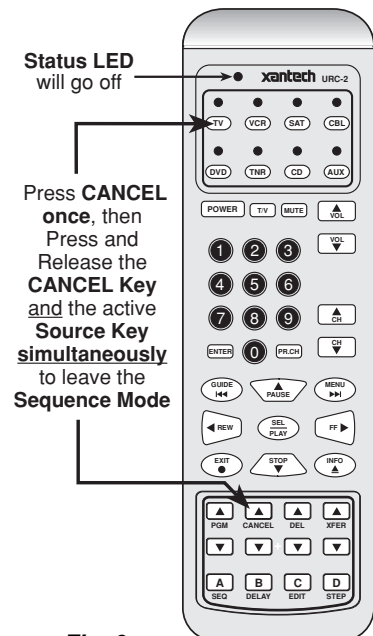

Fig. 9
- To **exit** the Sequence Mode completely, press **CANCEL** once, then press **CANCEL** and the active **Source Key** simultaneously. The Status LED will go out. Refer to Fig. 9.
- When finished with the sequence, exit **Sequence Mode** per Fig. 9. The delay times entered are now stored as part of the sequence.